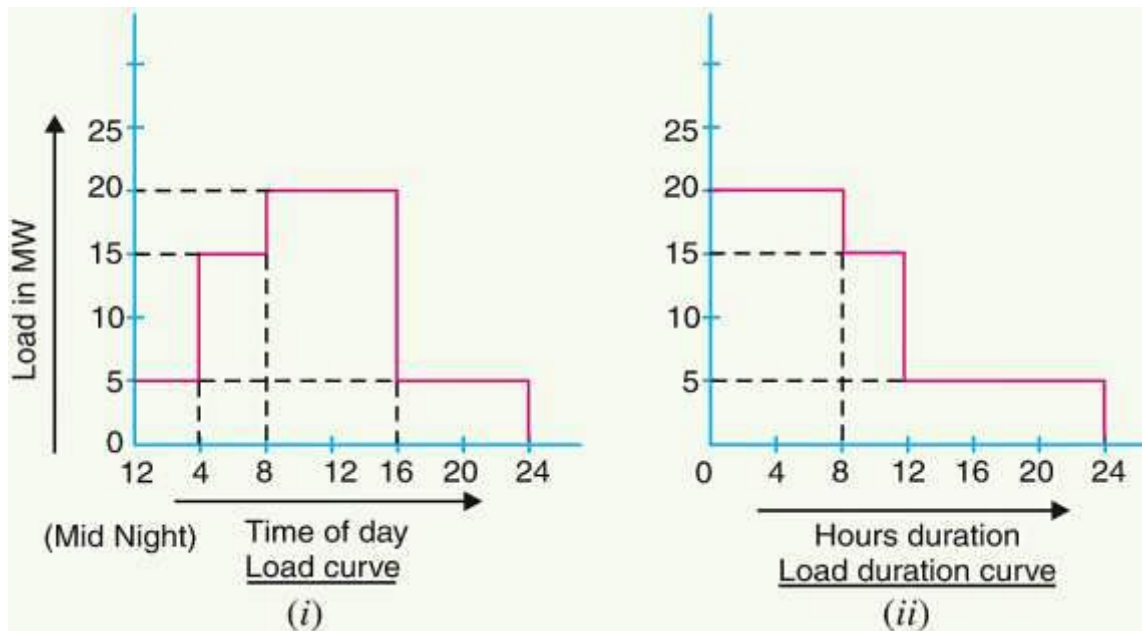

Fig. 9: load duration curve
- When the load elements of a load curve are arranged in the order of descending magnitudes, the curve thus obtained is called a load duration curve as shown in figure 9.